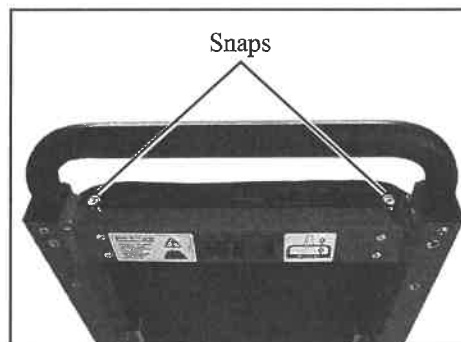

Figure 44 - Unfasten Snaps
1. Unfasten the snap at each corner of the vinyl at the top of the backrest (Figure 44).